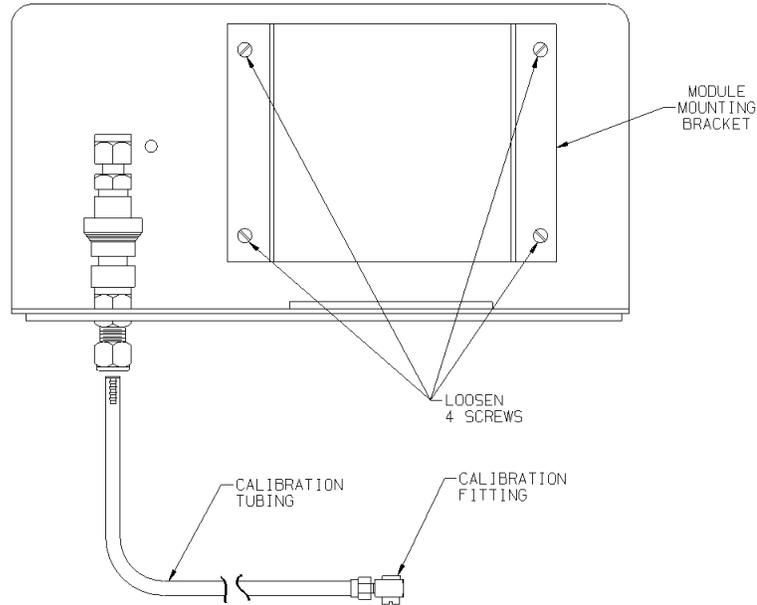

Fig. 50 Remote Sensor Base Plate
- (14) Locate the Remote sensor Toxgard II Gas Monitor base plate and two #10-32 screws and lock washers.
- (15) Remove the four screws holding the module mounting bracket (Fig. 50 "Remote Sensor Base Plate").